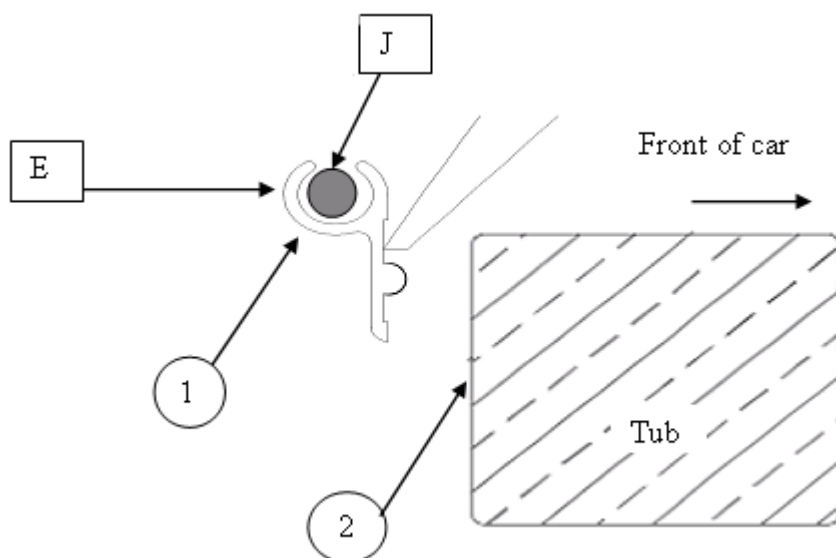

Figure 1
2. Rest the aluminum rope track on the side rails as Shown in **Figure 1**, and push forward to the vertical face of the tub.